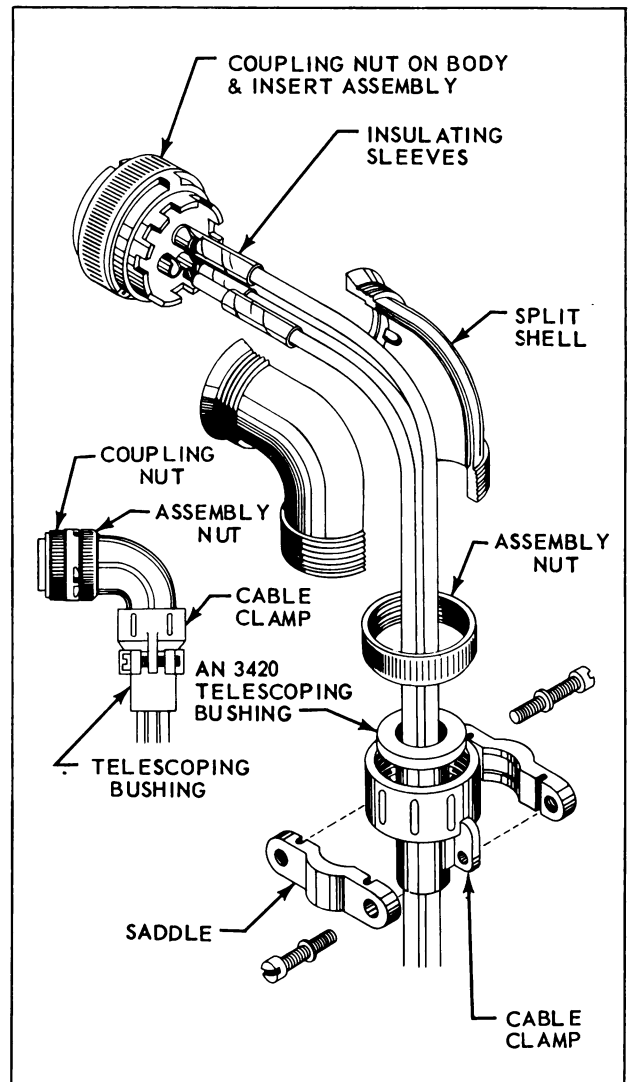

Figure 3-60. Installation of Cannon Class B Connector
- c. Install the following items on wire bundle in listed order as shown in Figure 3-60.